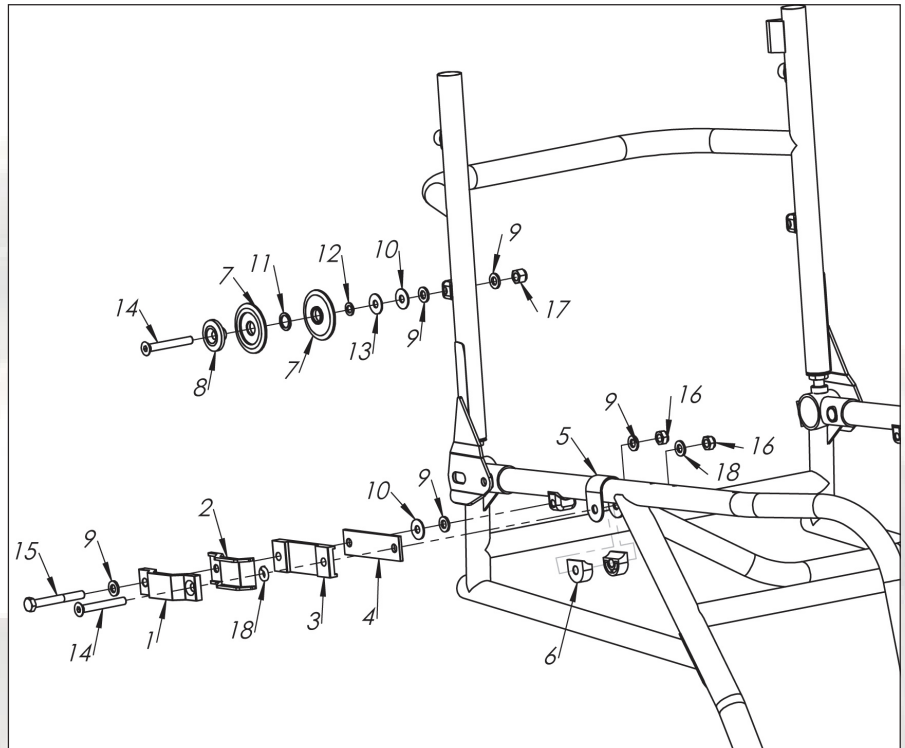

Fig. 3 Exploded view
Loosen the adjustment band for the seat upholstery slightly. Attach the side guard mounting loosely on the chassis as shown in fig 3 and 4. (The bolt with the hexagon head (Fig 3 pos15) should be placed closest to the back on both sides)
Assemble the cog fastener and plastic cog on the backrest frame as shown in fig 3 and 5
Insert the side guard into the mounting. Tighten the bolts securely using the hexagon head (Fig 3 pos 15). Tighten the socket bolt (Fig 3 pos 14). Adjust using the recessed socket bolt (Fig 3 pos 14) so that the side guard is easily inserted and removed. Loosen the 'Armrest mounting bushing' (Fig 1 pos 1) and adjust the side guard lengthways so that it is aligned with the plastic cogs on the backrest frame (fig 5). When the side guard is aligned with the plastic cogs, tighten the mounting bushing again.